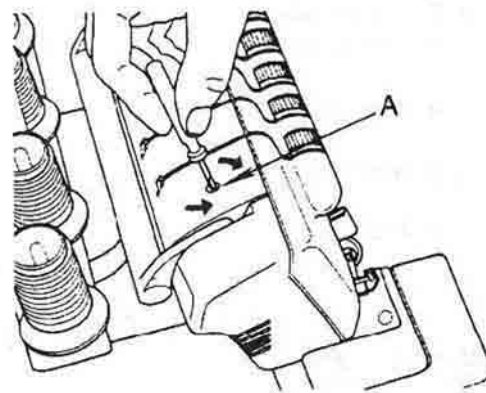
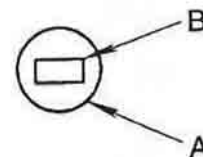

Fig. 40
Fig. 41
Insert the small screwdriver into the hole on the upper side of the machine (Fig. 40). The pressure adjustment screw is located here (A). Ensure that the screwdriver slips into the slot of the pressure adjustment screw (B) (Fig. 41).